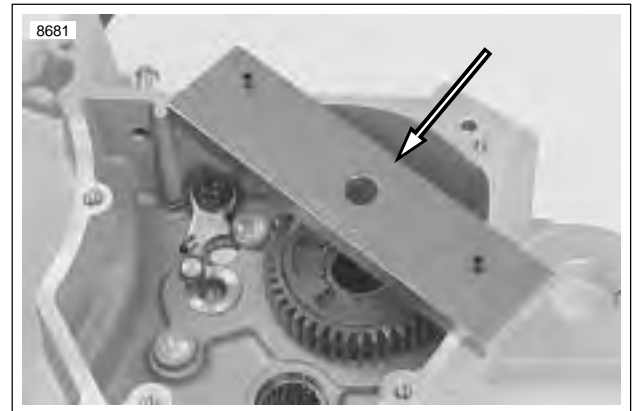

Figure 6-70. Bearing Remover Cross Plate Mounting (Part No. B-45847)
1. See Figure 6-70. Locate MAIN DRIVE GEAR REMOVER AND INSTALLER (Part No. HD-35316-A). Place cross plate pins in appropriate holes in transmission case.